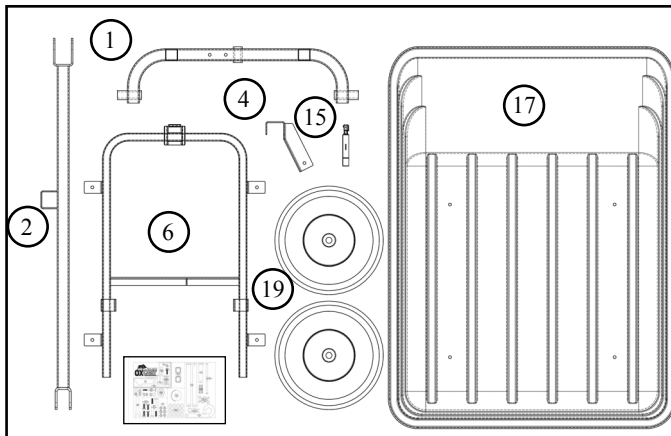

Figure 2.1 - Shipping Box Contents
Before use, the **OxCart™** may have to be unpacked and parts inventoried. The cart assembly parts are shipped in a box which weighs 71 lb. (32.2 kg). Enlist help of others, and use safe lifting practices when moving the product while in box. *Refer to Figure 2.1*
The **OxCart™** is equipped with a tow bar (2), bed frame (6), axle frame (1), two wheels (19), gas spring bracket (4), gas spring (15), bed (17), and a blister card. *Refer to Figure 2.1* for parts and *Figure 2.3* for hardware references.